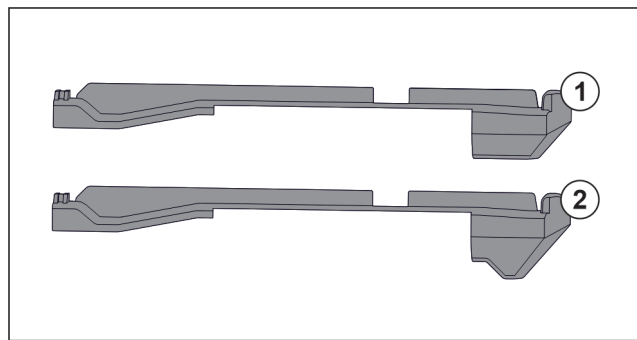

Fig. 31 Comparing attachments
There are two different attachments in the appliance. The attachment above the lowest drawer Fig. 31 (2) has a three-cornered edge. All other attachments Fig. 31 (1) have a straight edge.
- ▶ Fit attachment Fig. 31 (2) with the three-cornered edge above the lowest drawer.
- ▶ Fit attachment Fig. 31 (1) with straight edge in all other positions.